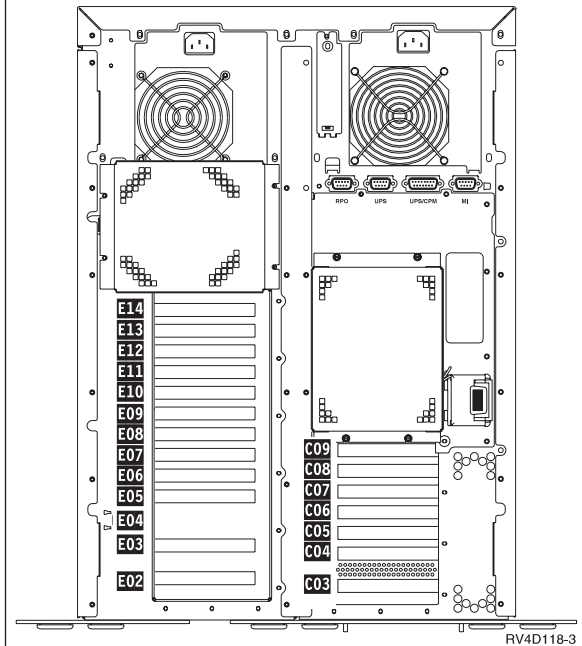

Figure 1. Adapter Card Positions
- ___ 8. Locate position C08 (Figure 1) on the back of your system unit.